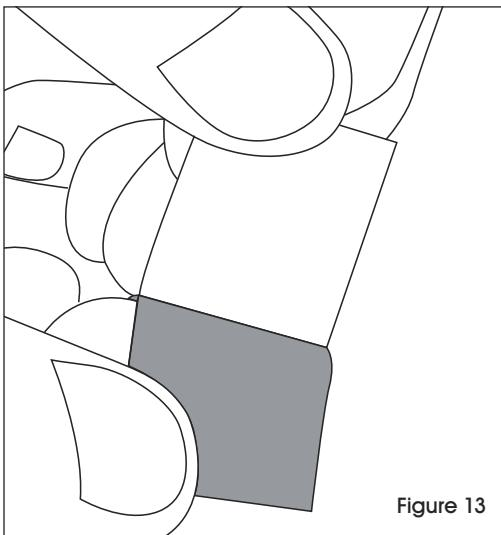

Figure 13
5. Peel backing from one of the 8" pieces. (See Figure 13)